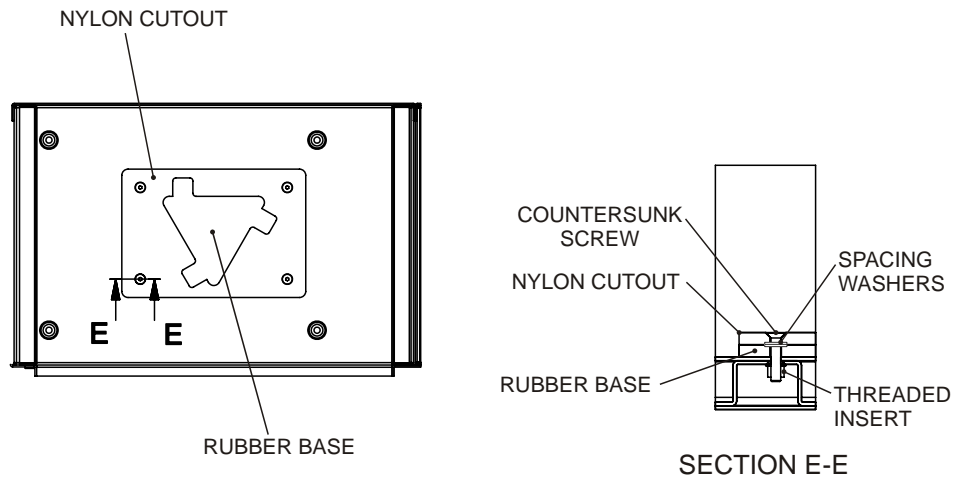

Figure 15 Base Plate for RBS Stand
- 40. Remove Base Plate for RBS Stand (Figure 15):